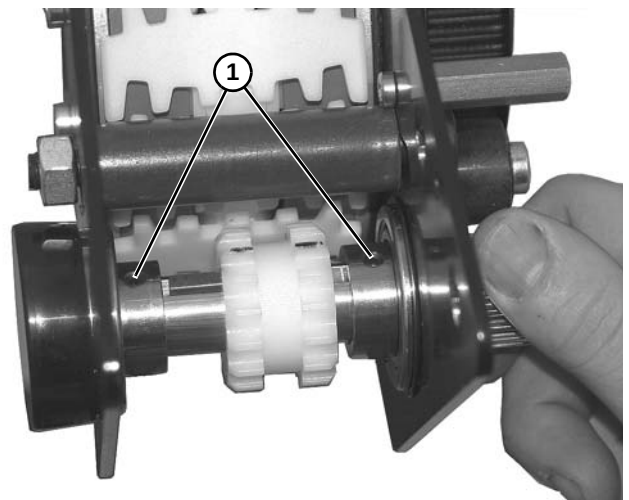

Figure 116
2. Secure drive shaft onto bearings with two set screws (**Figure 116, item 1**).